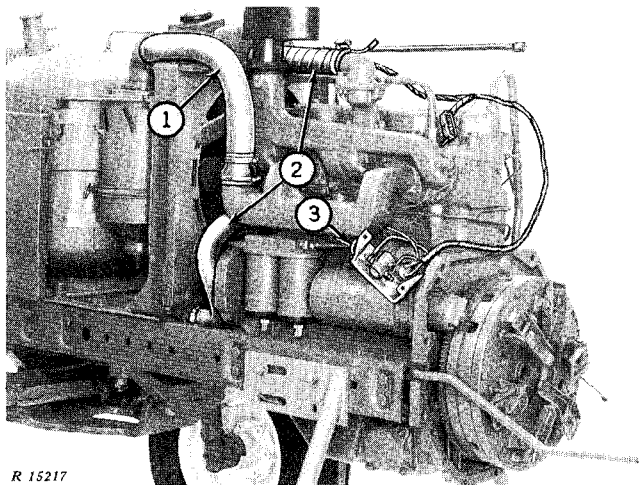
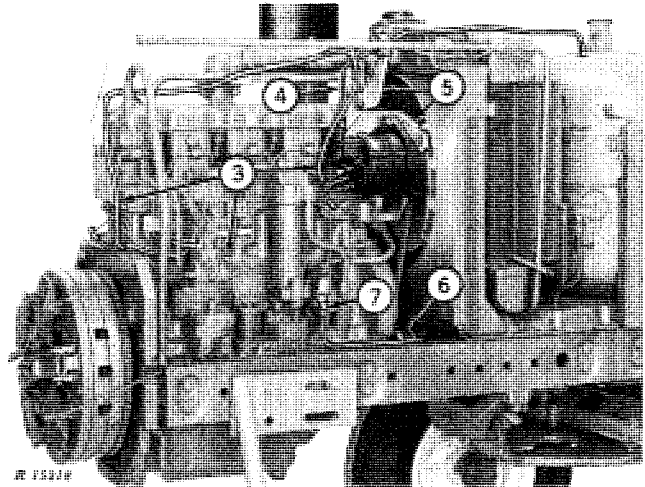
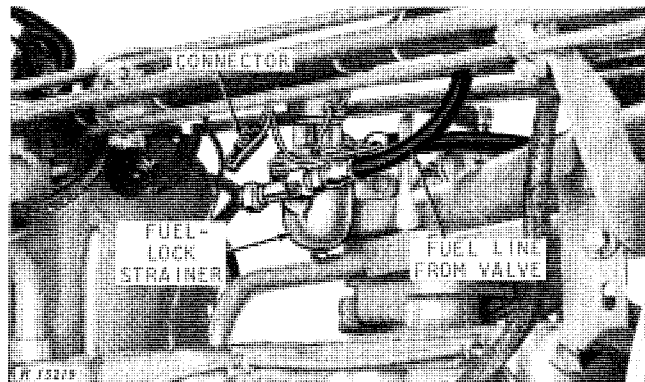

Fig. 19-Left-Hand Side of Engine
Fig. 20-Right-Hand Side of Engine
Fig. 21-Fuel-Lock Strainer
1. Remove air intake pipe from carburetor or intake manifold (Fig. 19).
3. Disconnect wiring harness from starter (Fig. 19), shut-off solenoid on gasoline carburetor, LP-gas fuel-lock strainer (Fig. 21), or injection pump (Fig. 20), alternator, ignition coil, and oil pressure switch.
4. Disconnect diesel fuel leak-off pipe (Fig. 20).
On LP-gas engines, disconnect the fuel line from the withdrawal valve at the fuel-lock strainer (Fig. 21).